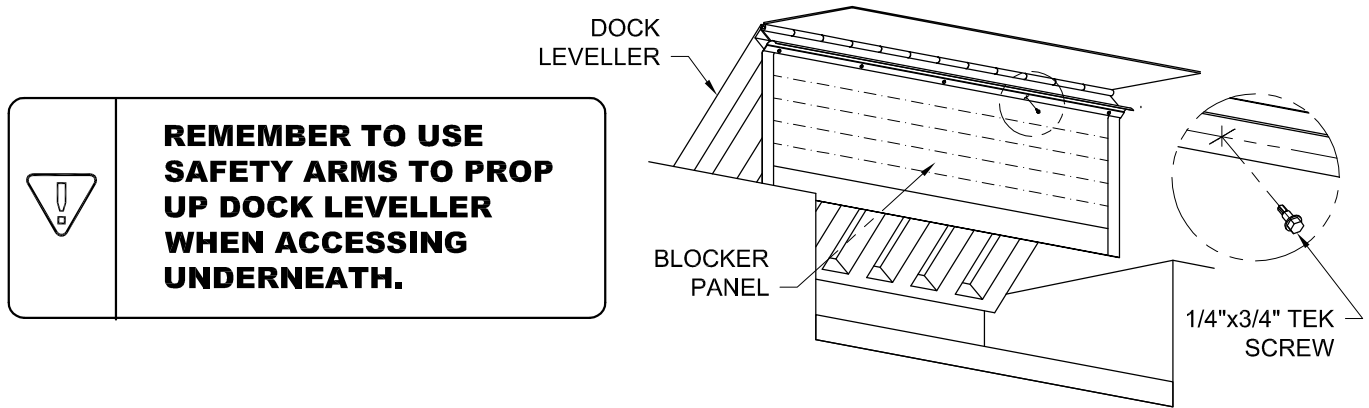

fig. 3
- a. Line up blocker panel center line with dock leveller center line and fasten with 1/4" x 3/4" tek screw. Screw through stay and fabric using 3/8" hex socket driver bit and drill (fig. 3).